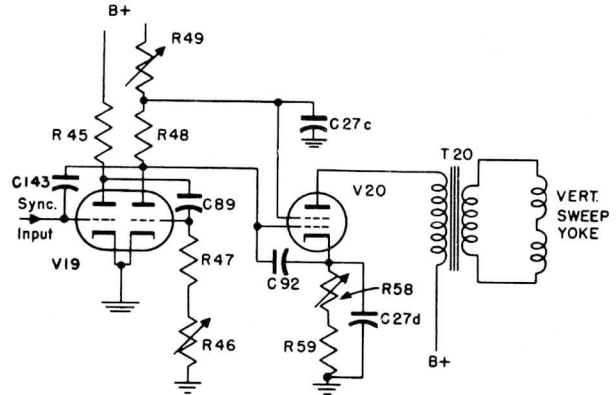

Fig. 8. Vertical M.V. and Sweep Output
7. VERTICAL MULTIVIBRATOR AND SWEEP OUTPUT (SEE FIGURE 8)—The vertical sawtooth voltage is generated by a Type 6SN7GT tube, V19, connected as a multivibrator. This voltage is coupled directly to a Type 6V6G vertical sweep output tube, V20, and then to the vertical sweep coils through the impedance-